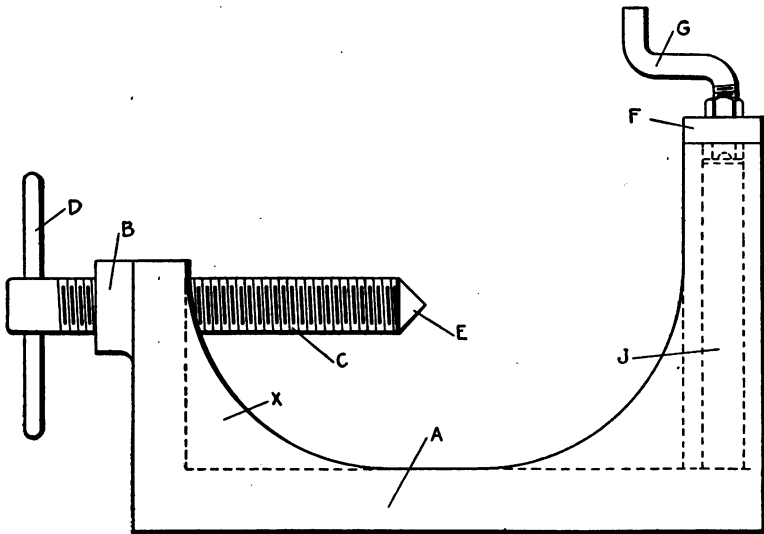

Fig. 484. Bearing Puller Side View
**Bearing Puller.** There are several bearing pullers on the market, but they are not adaptable to every kind of job and are weak when it comes to a real hard pull. A practical puller is shown in Fig. 484. The base *A* is of cast iron, having a front vertical standard *J* and a boss *B* cast to receive the screw *C*. This screw is  $\frac{3}{4}$  inch with a standard thread. A good snug fit